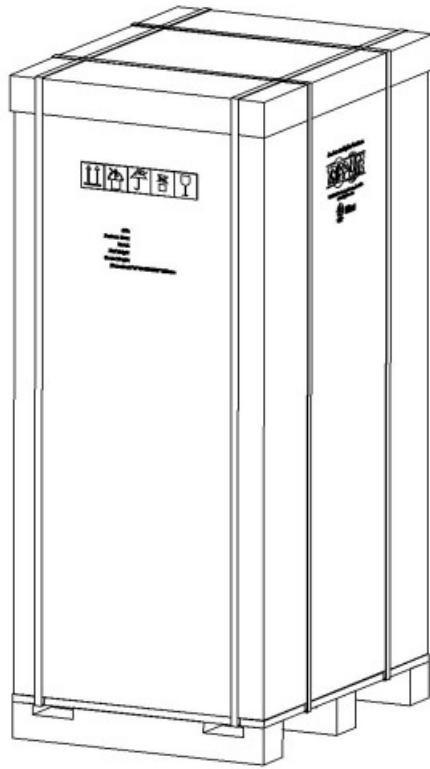

Figure 3-2
1. Hold the sliding plate steady. Cut and remove the binding straps (Figure 3-2).